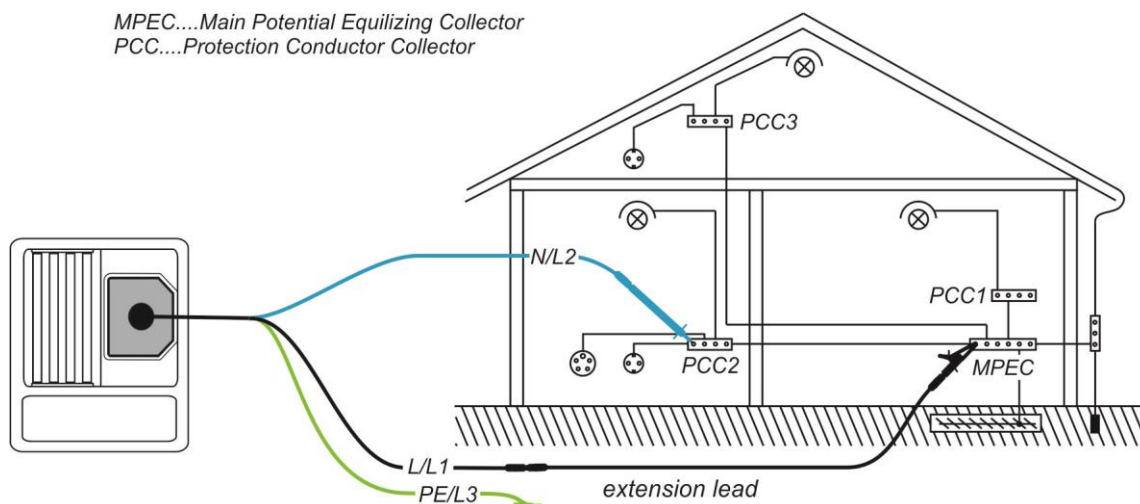

Figure 5.13: Connection of 3-wire test lead plus optional extension lead
- ❑ **Connect** the test leads to the appropriate PE wiring (see Figure 5.13).